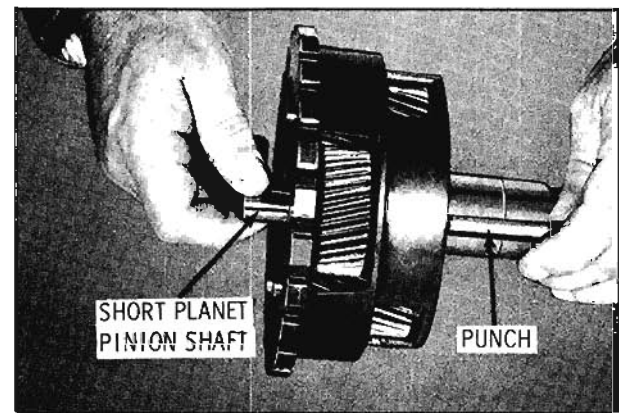

Fig. 6-386 Removing Short Planet Pinion Gear
3. Remove the short planet pinion shafts and short pinions. (Fig. 6-386)